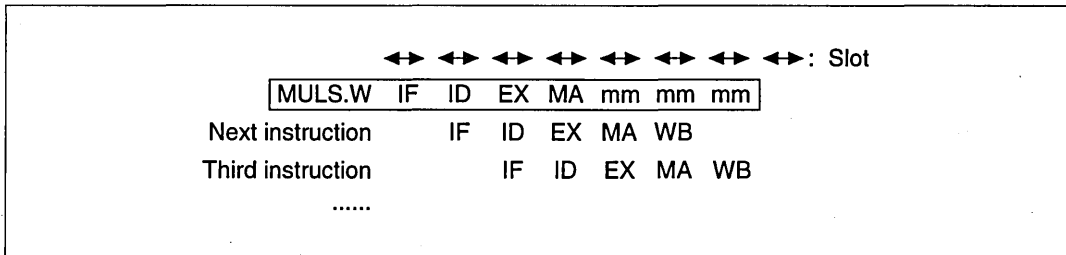

Figure 8.45 Multiplication Instruction Pipeline
Operation: The pipeline has seven stages: IF, ID, EX, MA, mm, mm, and mm (figure 8.45). The MA accesses the multiplier. The mm indicates that the multiplier is operating. The mm operates for three cycles after the MA ends, regardless of a slot. The MA of the MULS.W instruction, when it contends with IF, splits the slot as described in Section 8.4, Contention Between Instruction Fetch (IF) and Memory Access (MA).